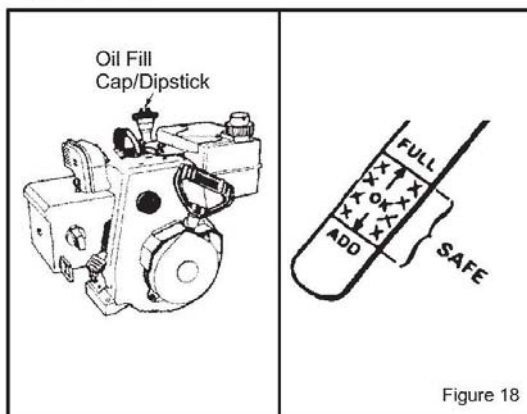

Figure 18
3. If necessary, add oil until the oil reaches the FULL mark on the oil fill cap/dipstick (see Figure 18). Do not add too much oil.